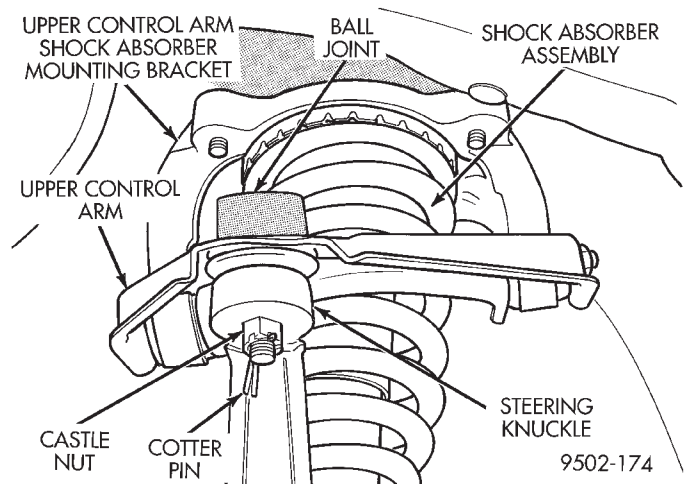

Fig. 50 Upper Ball Joint Attachment To Steering Knuckle
(16) Remove the cotter pin and nut (Fig. 50) from the upper ball joint stud to steering knuckle attachment.
(2) Install the heat shield for the lower control arm ball joint grease seal before beginning the installation of the steering knuckle on the vehicle.
(3) Slide drive shaft back into front hub/bearing assembly. Then install steering knuckle onto the ball joint stud in lower control arm.
(4) Install the steering knuckle to lower ball joint stud castle nut.
(5) Install upper ball joint in steering knuckle. Install the steering knuckle to upper ball joint nut. Tighten the upper ball joint castle nut (Fig. 50) to a torque of 54 N·m (40 ft. lbs.). Then, using a crowfoot and torque wrench, tighten the lower ball joint nut (Fig. 47) to a torque of 75 N·m (55 ft. lbs.). Install cotter pins in upper and lower ball joint studs.